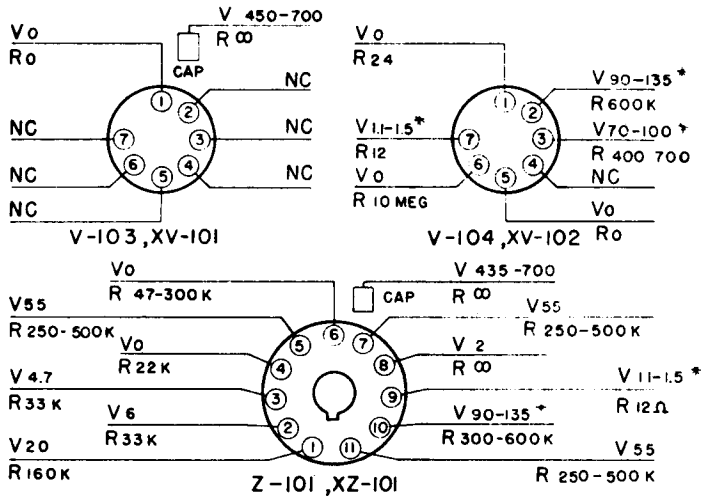

Fig. 7-1 Voltage Resistance Chart
reading, the clicks in the headset, or both. If the headset is inoperative when the meter is indicating the presence of radiation correctly, the fault must lie in the headset and its associated components. If the meter is inoperative when clicks are being obtained in the headset, the fault must lie in the meter and associated circuits. However, if neither the headset nor the meter respond, the fault must lie in the circuits common to both. In this case, replace Z-101, V-104, V-103, V-102, and V-101, one at a time, in the sequence listed, and check for proper operation after each replacement. If the fault persists, replace the original parts, then use the data contained in the voltage-resistance chart (figure 7-1) and in the waveform chart (figure 7-2) and table 7-1 to trouble shoot the pulse shaper and amplifier circuit, the high-voltage power supply circuit, the integrating and indicating circuit, and the G-M tubes.
3. VOLTAGE-RESISTANCE CHART (See figure 7-1).